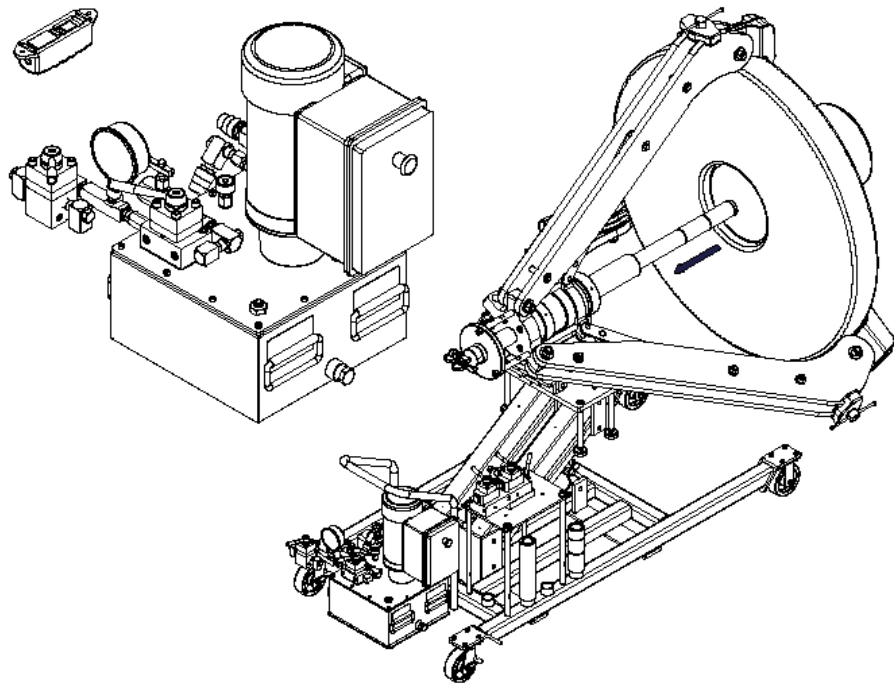

Figure 9 – Retracting the Cylinder Piston
5.3.3 Switch the control panel as shown in Figure 9 to retract the cylinder.